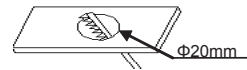

Fig.1
1. Drill a hole of $\Phi 20\text{mm}$ at desired position before installation. (See Fig. 1)